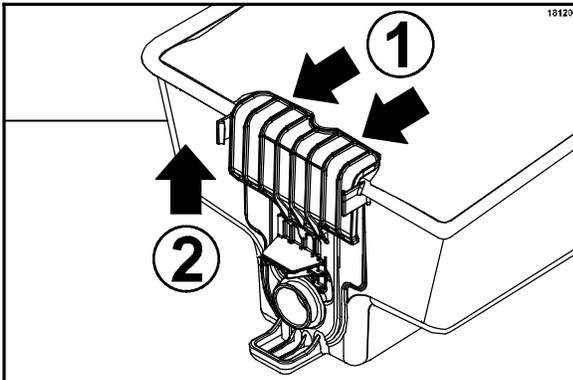

Figure 41
Move the bin slide to the “open” position by (1) pulling the slide slightly away from the bin and (2) up, until it stops. Remove and discard the empty product bag. (See Figure 41.)